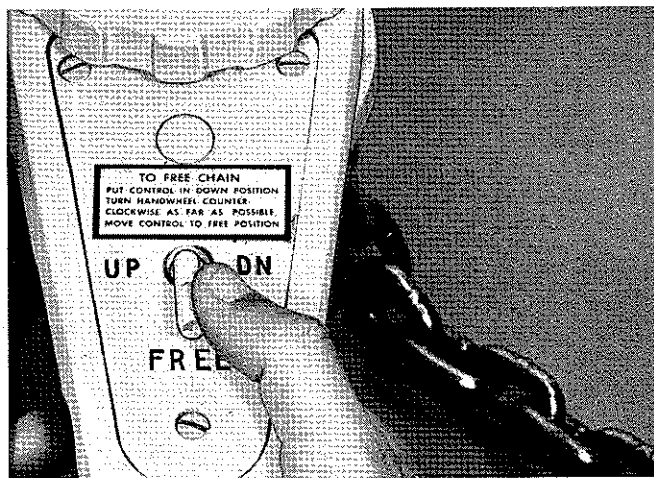
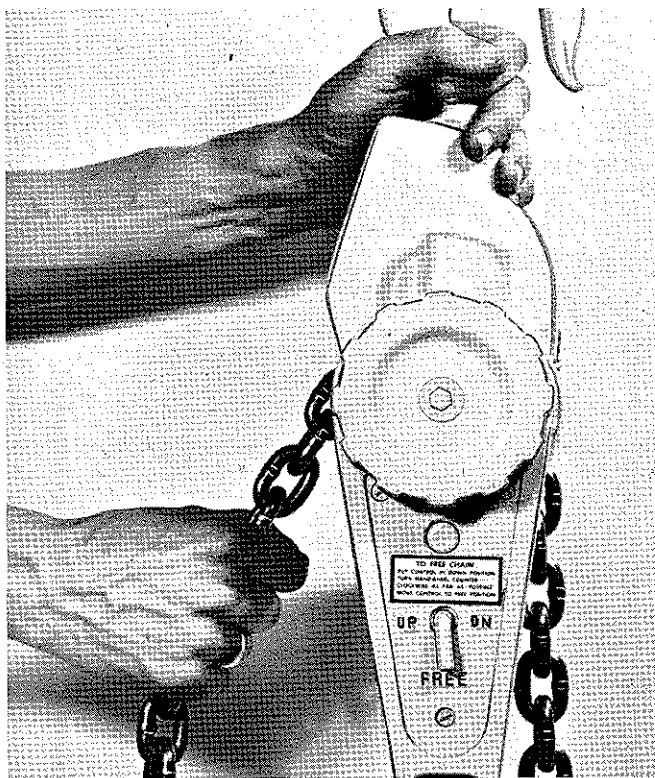

Figure 2-3. Placing Finger-Tip Lever in "FREE" Position
Figure 2-4. Pulling Load Chain thru Hoist
b. Move finger-tip lever to "FREE" position, Figure 2-3, and pull chain thru hoist, Figure 2-4.